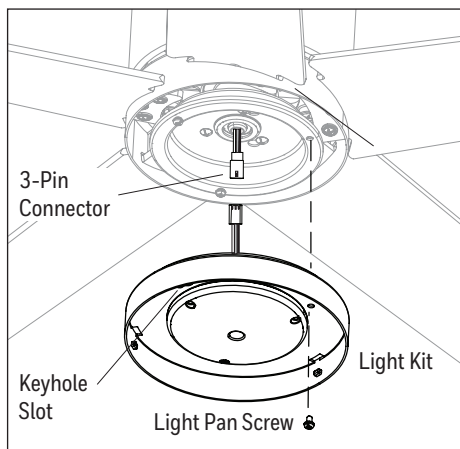

Figure 4.5
5. Remove one of the three light pan screws from the light pan and loosen the other two but do not remove. Connect the 3-pin connector from the light pan to the 3-pin connector from the light kit. Lift the two keyhole slots in the light kit over the two loosened light pan screws and turn in a clockwise direction. Then, use the previously removed light pan screw to secure the light kit to the light pan. Tighten all screws (Figure 4.5).